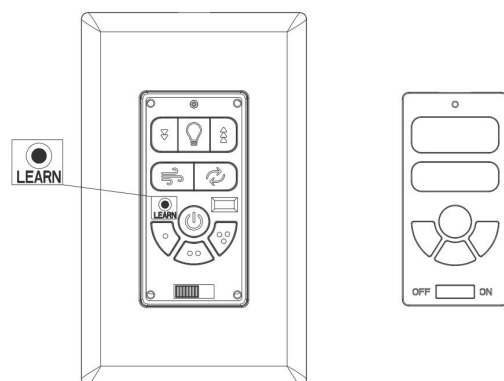

FIG. 4
1. After installation is complete, AC power is turned on and  SWITCH is at ON position within 30 seconds, press and hold the **LEARN** button for 3 seconds. Fan will turn on at medium speed and light (if installed) will turn on. This confirms that the SMART SYNC setting is active and ok. (FIG. 4)